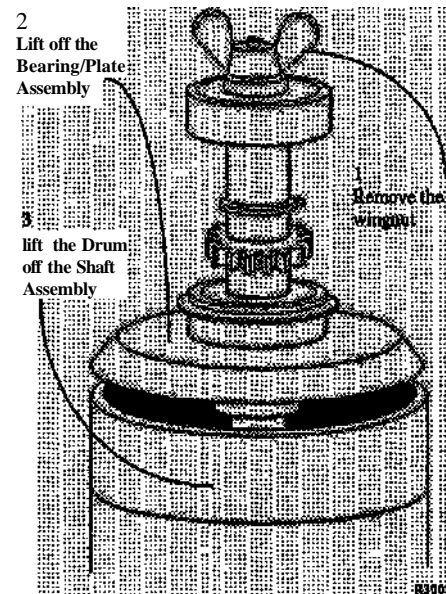

Figure 2. Removing the Drum from the Shaft Assembly
3. (Figure 2): Remove the Drum from the Shaft Assembly.